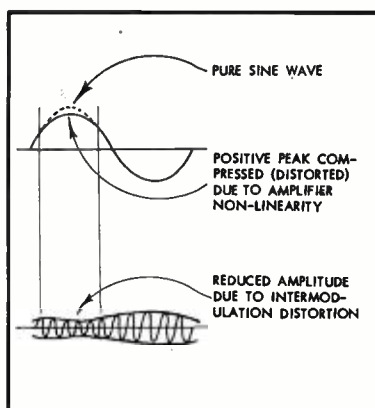

Fig. 2. Example of intermodulation distortion.
Figure 2 illustrates the process of intermodulation distortion. For simplicity, it is assumed that only two tones, 100 and 1000 cps, are present and that they are fed through an amplifier. Let us assume that the 100-cps signal is of substantially greater magnitude than the other, so that it causes the amplifier to operate in non-linear fashion at the positive peaks of the waveform. During these moments of non-linear operation of the amplifier the 1000 cps signal is also being treated in non-linear manner, despite the fact that this signal in itself is of too small magnitude to cause the amplifier to behave in non-linear fashion. At (A) we see the effect of amplifier non-linearity upon the 100 cps waveform. (B) shows the resulting effect upon the 1000-cps waveform due to the fact that the amplifier is periodically operating in non-linear manner. The 1000-cps waveform is compressed 100 times per second by the 100 cps signal. In other words, the 100-cps frequency is now present in the 1000-cps one.